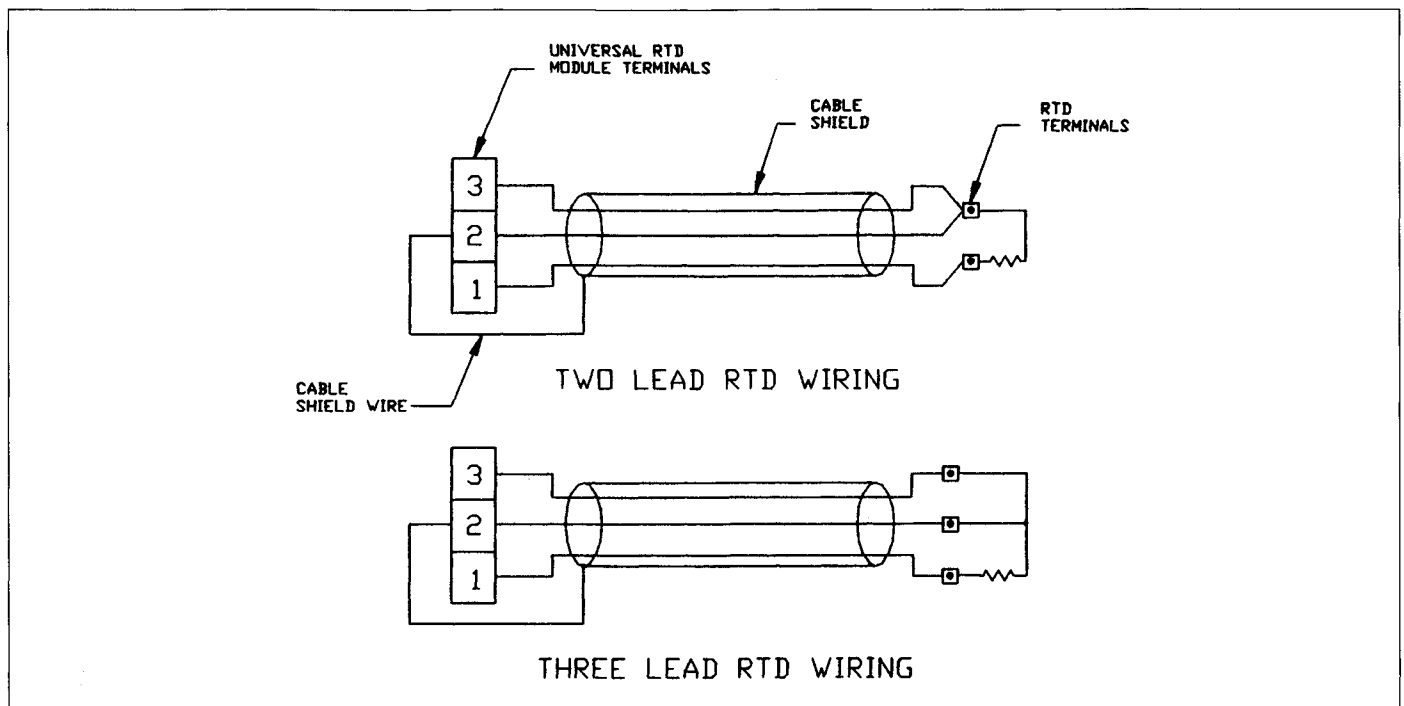

Fig. 7.10 RTD Wiring Examples
7.5.2 RTD Wiring — If the optional RTD Module is used, each RTD must be wired as shown in Figure 7.10. Also, note the following requirements:
- When making connections between the RTD Module and an RTD that has only two leads, connect two of the interconnecting cable's leads to one of the RTD's leads (see Figure 7.10). Make this connection as
- When making connections between the RTD Module and a three lead RTD, connect the shield and drain wire to the RTD Module terminal as shown in Figure 7.10.